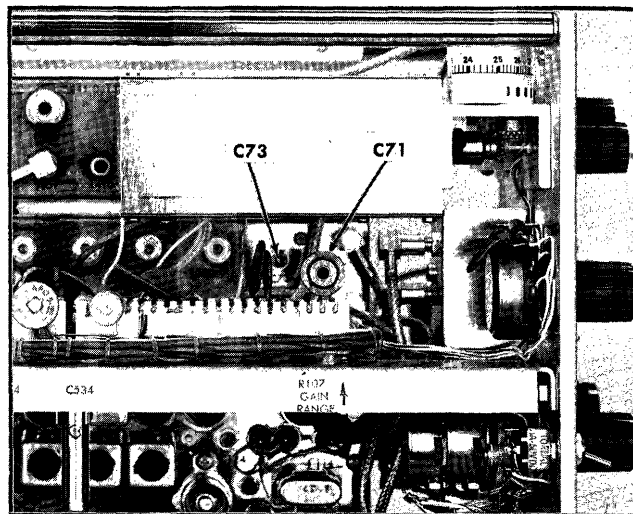

Fig. 4-16. Location of Balanced Mixer adjustments.
d. Adjust C71 and C73 (Fig. 4-16) for minimum displayed signal amplitude. After the adjustment is completed, maximum spurious signal amplitude is two times noise.